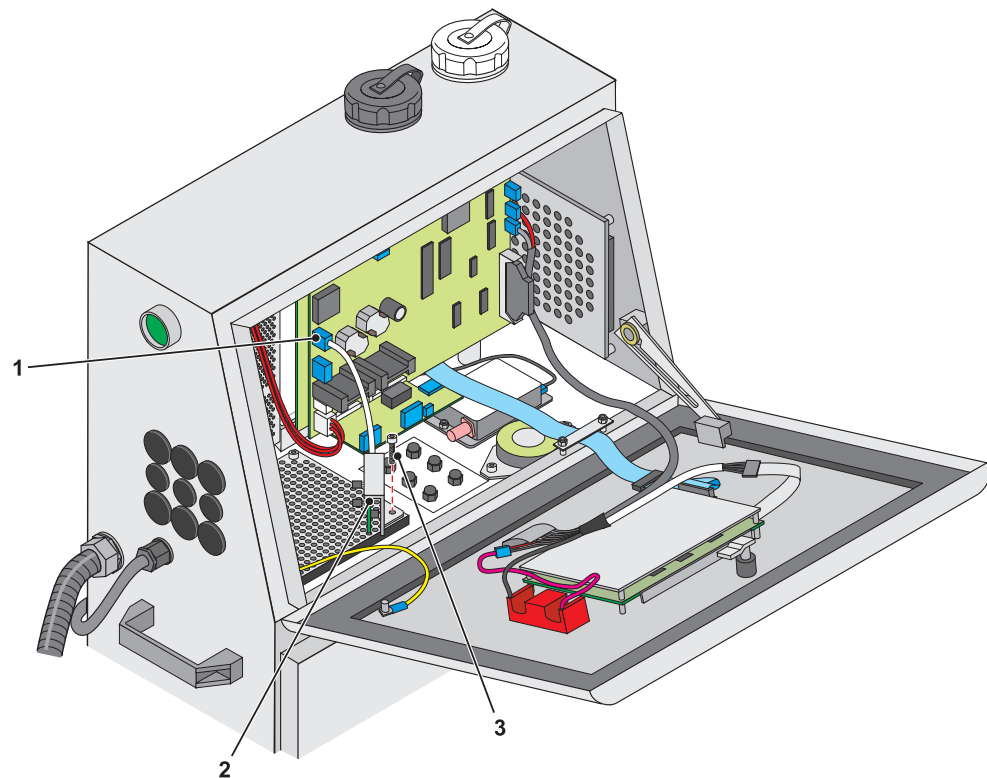

Figure 8-19. Removing the fan fail card
- 2 Disconnect the FAN FAIL connector (Item 1 in Figure 8-19) from its location on the left edge of the I/O board.
- 3 Remove and retain the mounting screw (3) that attaches the fan fail card (2) and its mounting bracket to the fan assembly.